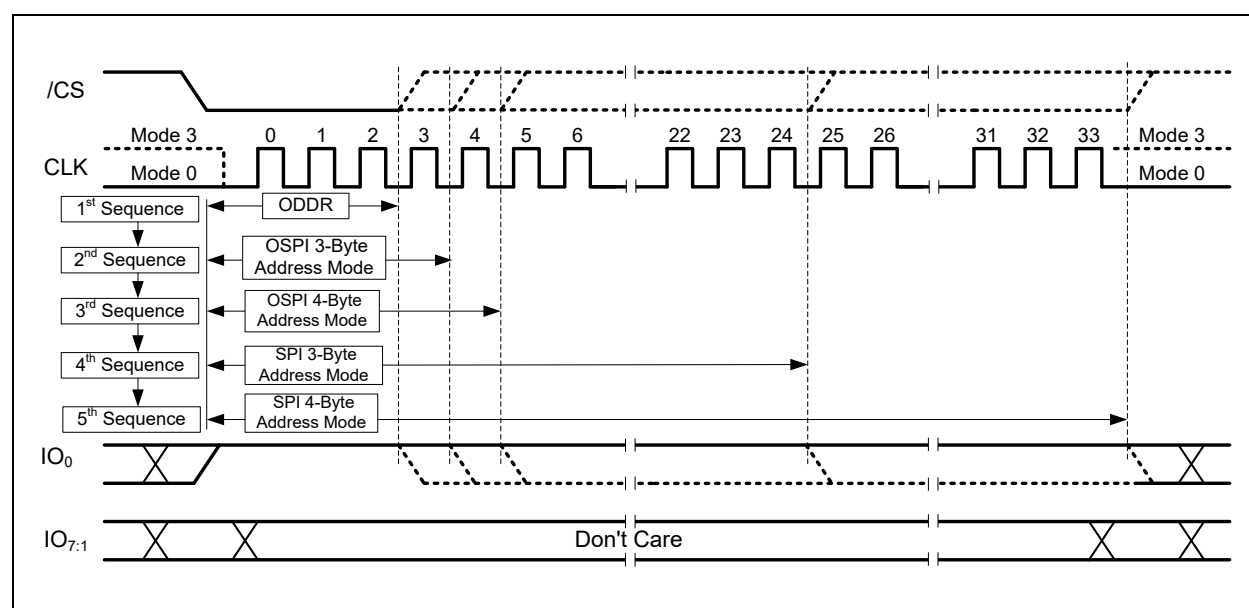

Figure 4-4. Exit XIP Sequence
The above sequence is illustrated in Figure 4-4 below. This sequence will only exit indeterminate XIP mode by setting XMb to '1'. It does not reset the device or interrupt an ongoing internal Program/Erase operation. After terminating XIP mode, the host controller should regain control of the interface and perform the required operations either by doing further interface recovery, power loss recovery, software reset sequence or hardware reset for full device recovery.
- The first step is to execute the Exit XIP Recovery Sequence as detailed on Section 6.5.4 and Figure 4-4 (on the previous section). This is a five step method in exiting XIP mode by driving IO0 to '1' until XIP Mode Bit (XMB) is passed on each of the supported XIP IO Mode Configurations (ODDR, OSPI with 3-Byte or 4-Byte Address, and SPI with 3-Byte or 4-Byte Address).
- The first step is to execute the Exit XIP Recovery Sequence as detailed in Section 6.5.4 and Figure 4-4 (on the previous section). This is a five step method used to exit XIP mode by driving IO0 to '1' until XIP Mode Bit (XMb) is passed on each of the supported XIP IO Mode Configurations (ODDR, OSPI with 3-Byte or 4-Byte Address, and SPI with 3-Byte or 4-Byte Address).